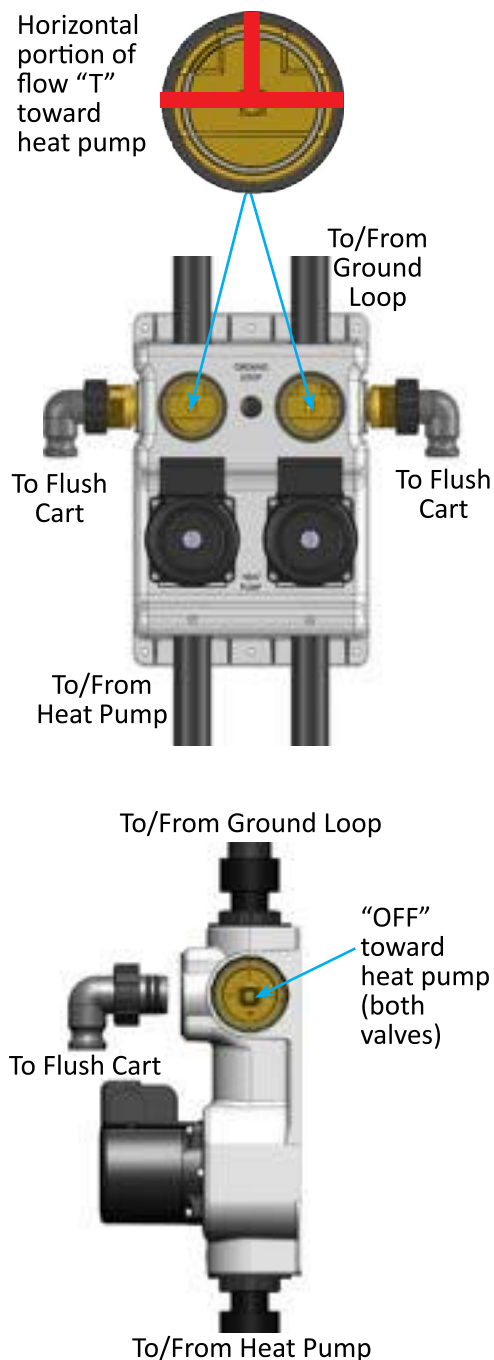

Figure 6: FPT flow center (top) and Flo-Link Double O-ring flow center (below) valve positions for heat pump isolation
5. Rotate 3-way valves on flow center so that the heat pump circuit is isolated and fluid is directed toward the ground loop only. Figure 6 shows examples of how the valves may be oriented. This will vary depending on the type of flow center installed.
4. Rotate the valves on the flow center to direct the fluid to the ground loop only. Figure 6 shows examples of how the valves may be oriented. This will vary depending on the type of flow center installed.